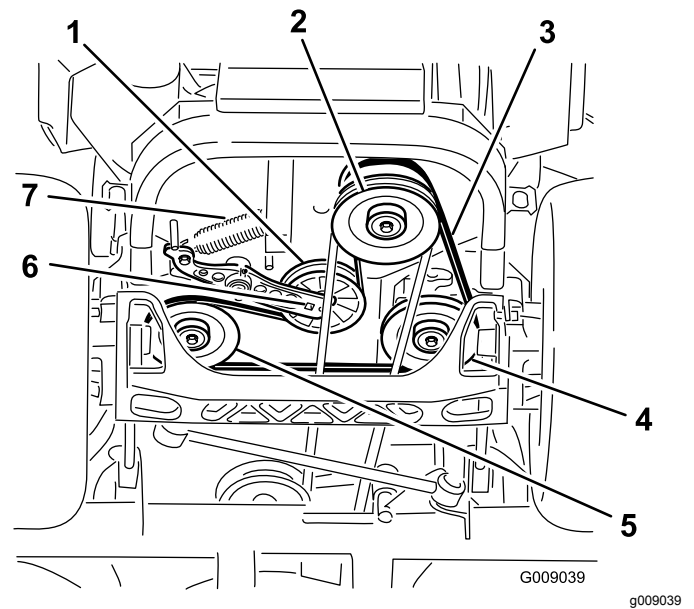

Figure 75
4. Raise the machine and support it with jack stands (Figure 75).
5. Use a ratchet in the square hole in the idler arm to remove the idler spring (Figure 75).
6. Unhook the idler spring from the frame (Figure 75).
9. Using a ratchet in the square hole in the idler arm, install the idler spring to the frame (Figure 75).